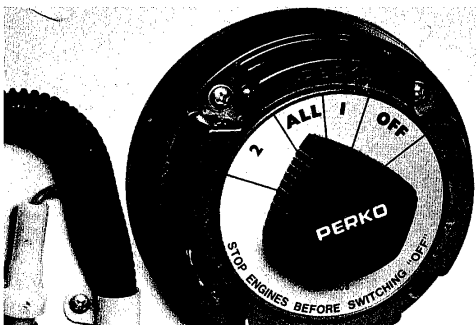

Figure 14
3. Put the battery main switch in the "On" position. See figure 14.